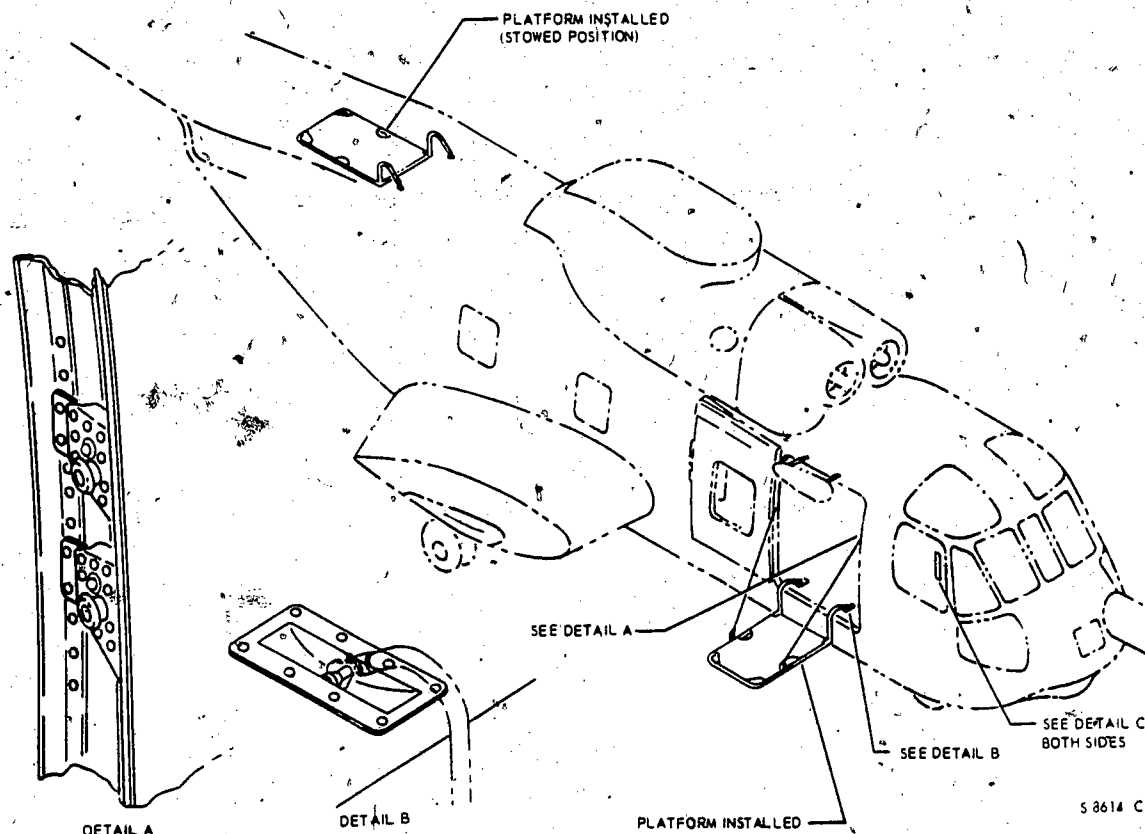

Figure 24. - Rescue platform.
6. Rig rescue gear. (See figure 24.)